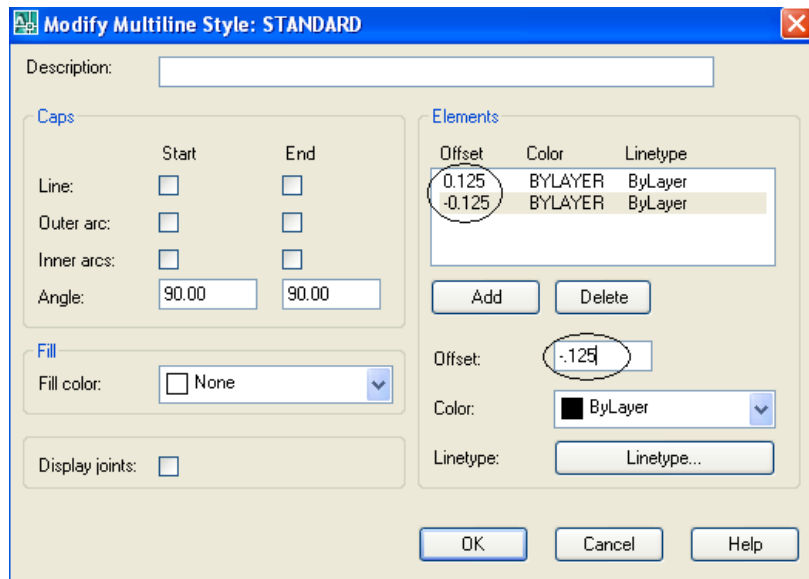

Figure 3
3. Change the offset distance for the multiline elements to .125 & -.125. (Figure 3)